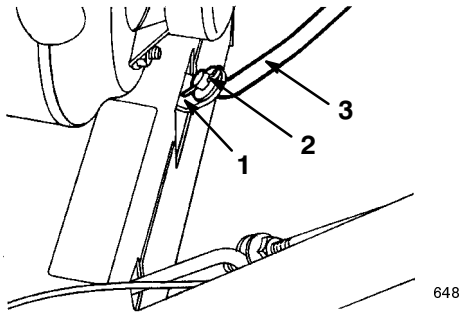

Figure 5
1. Pull the speed selector arm (Fig. 5) to the most outward position.
3. Install the speed selector rod into the selector arm, add one flat washer on the selector rod, and secure it with a cotter pin (Fig. 5).